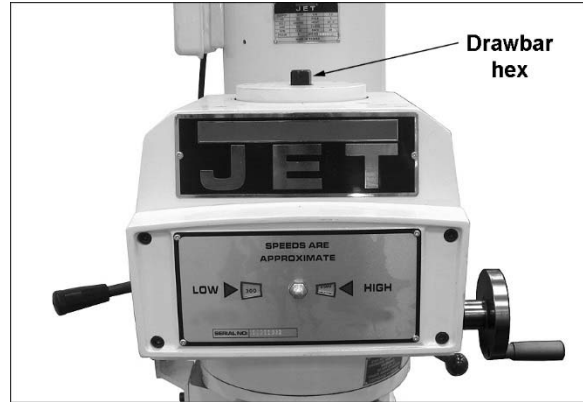

Figure 6: Drawbar
1. Apply the spindle brake and loosen the draw bar two or three turns (counterclockwise) with the provided wrench placed over the draw bar hex (Figure 6).